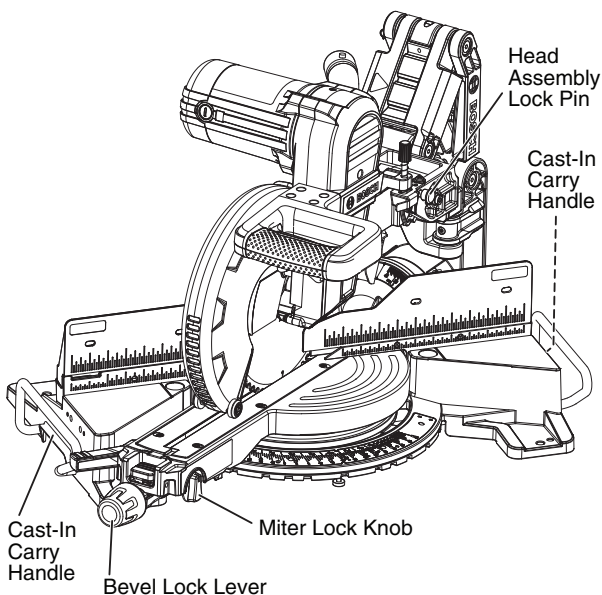

Figure 27
- **ONLY lift this saw by the cast-in carry handles at each side of the bottom of the base** (see Figure 27).
4. Slide the head assembly completely to the front and engage the slide rail lock knob by tightening the knob to the right (clockwise) (figure 27).
5. Check that each sliding base extension is in the closed and locked position, (figure 27).